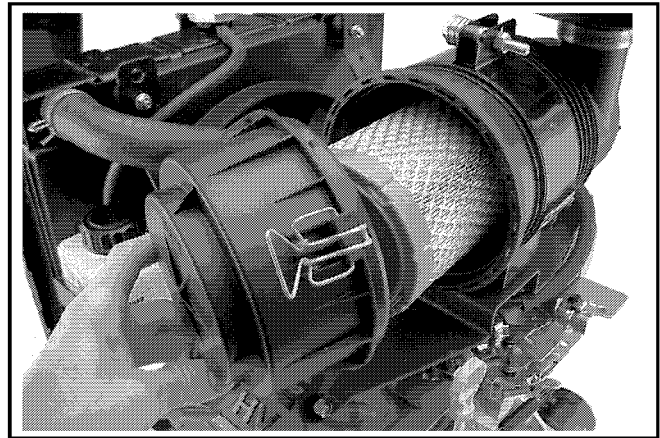

Figure 14. Removing End Cap.
1. Unhook the two retaining clips and remove the end cap from the air cleaner housing. See Figure 14.